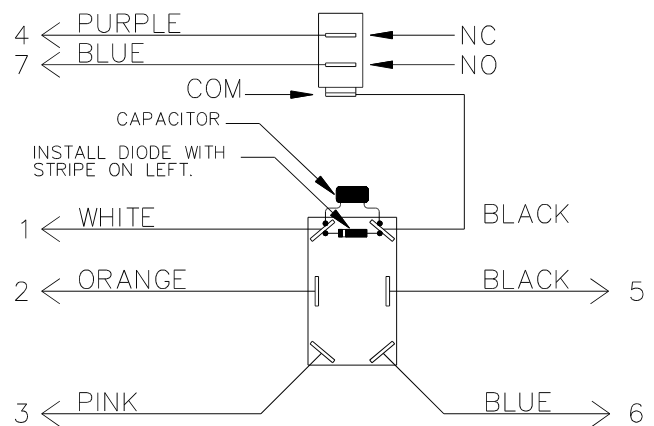

Figure 10
1. Read across the diode with a multi-meter (see Figure 10).